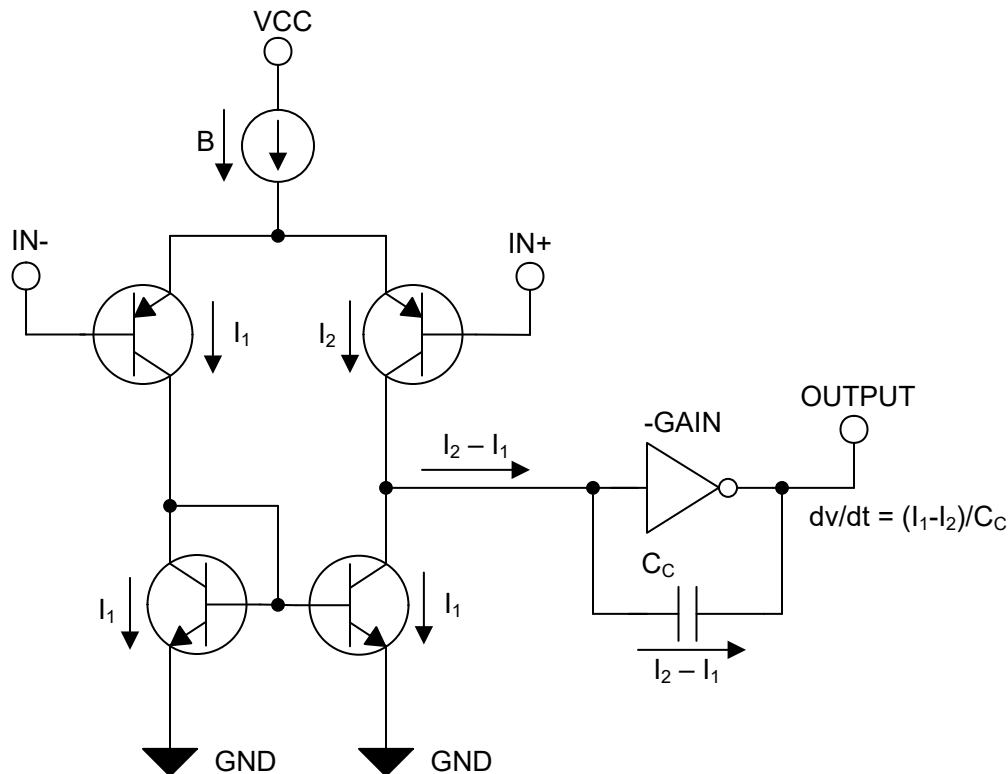

Figure 2-1. Simplified Bipolar Input Stage Schematic
Many bipolar op amp input stages simplify to the circuit in Figure 2-1. The V_{ID} , $[IN+] - [IN-]$ voltage, controls how the bias current (B) is split between current paths I_1 and I_2 . Current I_1 is mirrored 1:1, to create an output current, $I_2 - I_1$, that can vary from $-B$ to $+B$. This output current charges the compensation capacitor (C_C) and this charge rate is inverted to become the output slew rate.